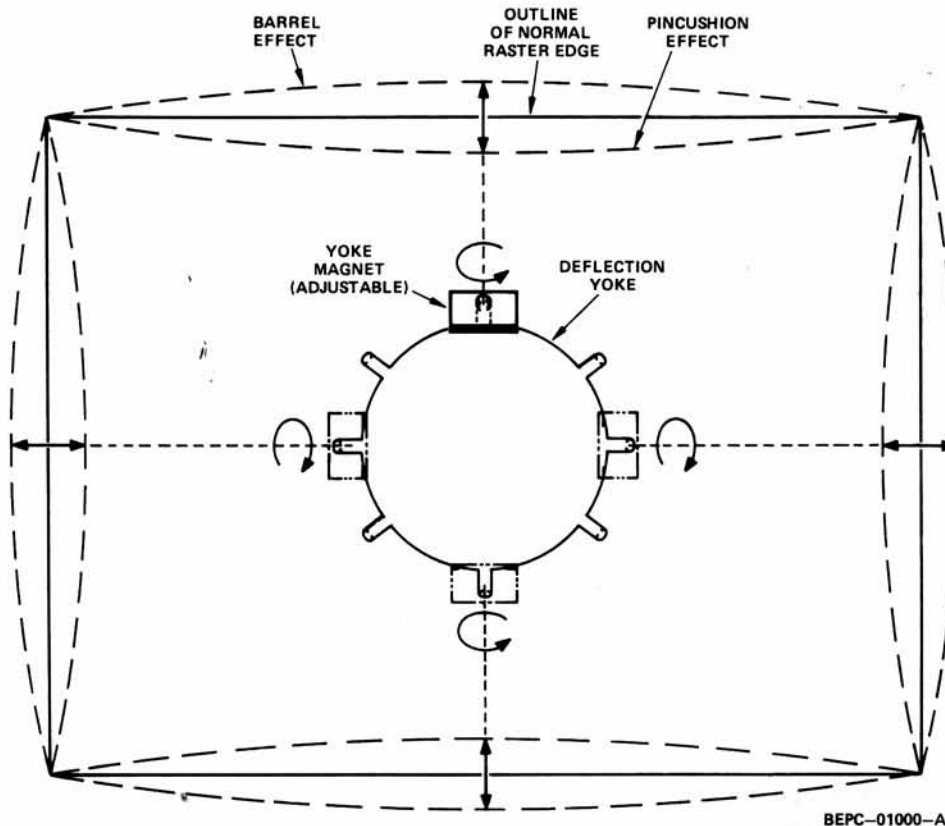

Figure 3. Pincushion/Barrel Effects and Adjustment
Perform this adjustment if the raster exhibits the abnormal effects shown in Figure 3.
- Step 1. Push a magnet on the yoke mounting pin as shown in Figure 3. A magnet should be placed only on the pin that corresponds to the affected area.
- Step 2. Rotate the magnet to obtain the desired raster, labeled "NORMAL" on Figure 3.